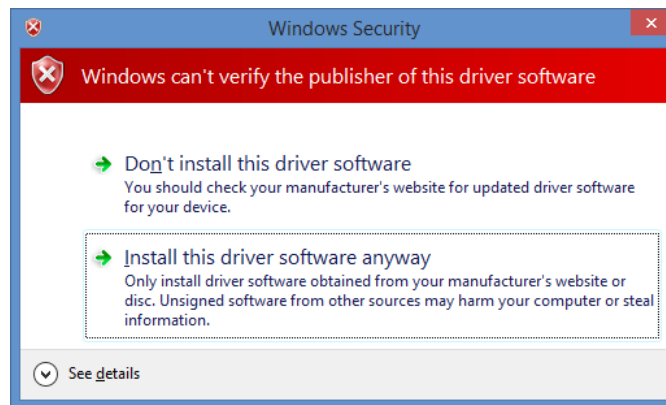

Figure 6 Hardware wizard. Install driver manually
6. If the **Windows Security** window appears, select **Install this driver software anyway** *Figure 6*